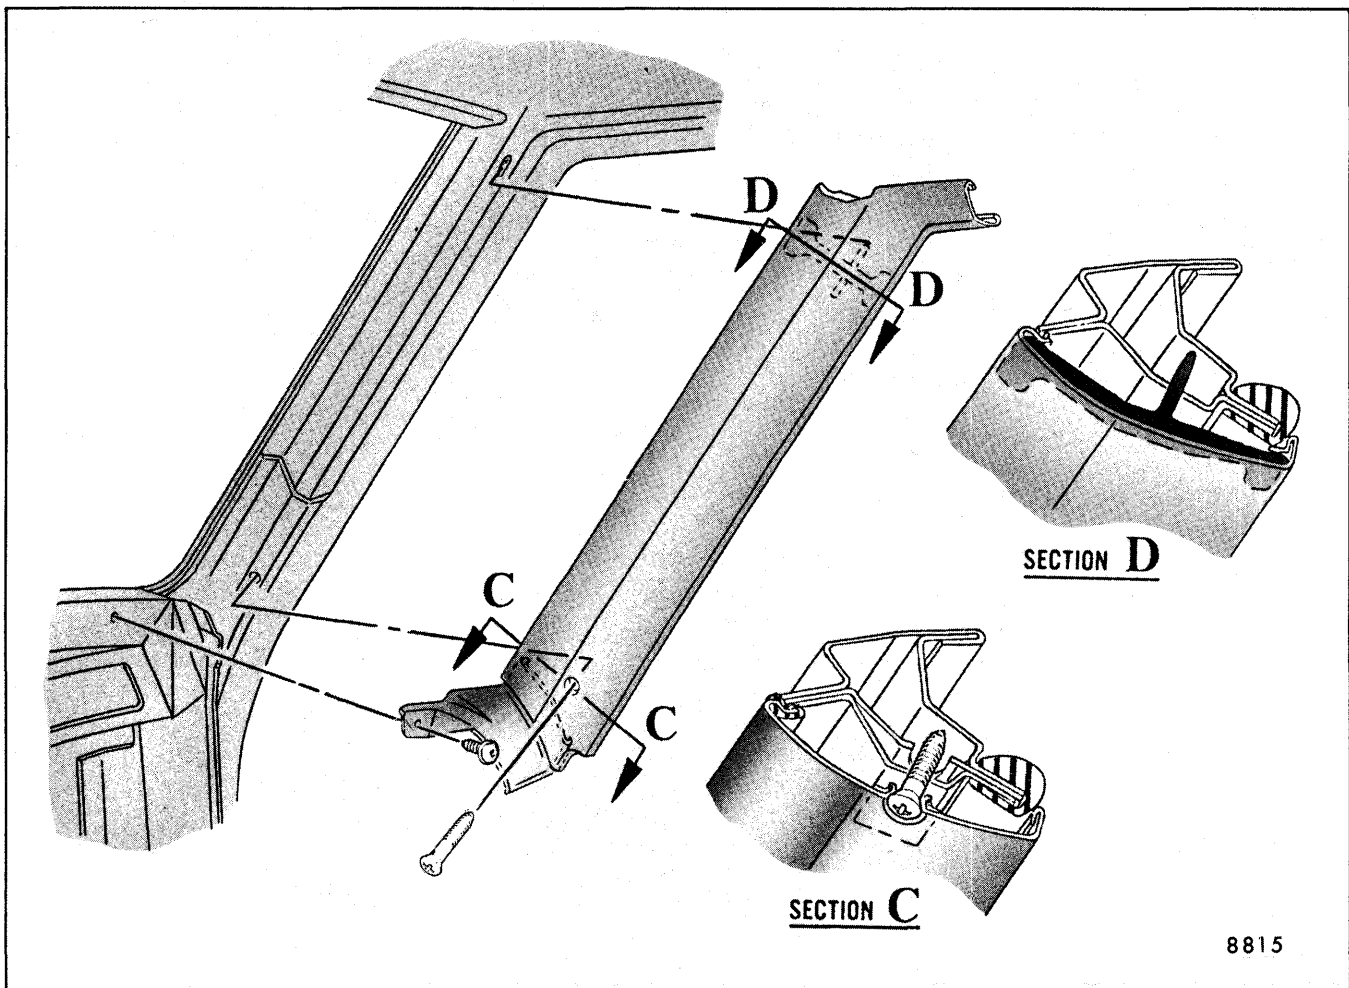

Fig. 8-2-Windshield Side Garnish Molding
1. Remove lower two (2) molding attaching screws.
2. Insert flat-bladed tool (J-2772 or equivalent) between molding and finishing lace at top clip location and gently force clip from attaching slot in windshield pillar (Fig. 8-2).